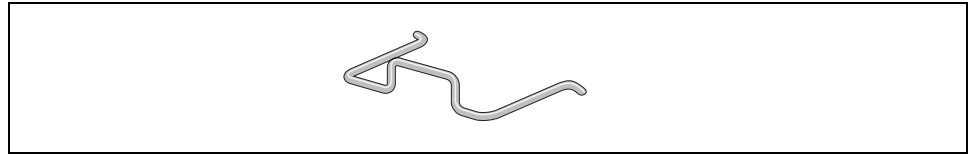

Figure 12. Power Cord Retaining Clip
1. Locate the power cord retaining clip, shown in Figure 12.